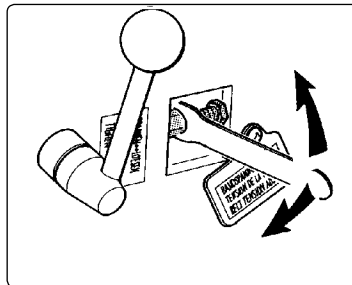

fig 10
- 6.2.5. To decrease tension turn adjusting rod upward (fig 10).